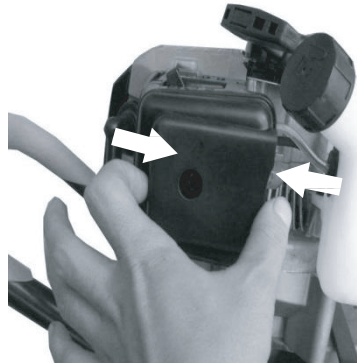

Figure 2
2. To remove air filter cover, loosen and remove the bolt on the cover and squeeze the latch tabs on both sides of the cover. **(Figure 2)**